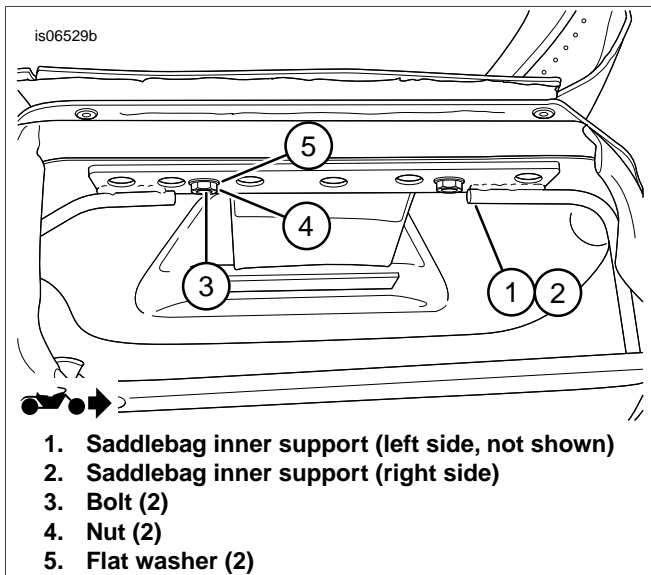
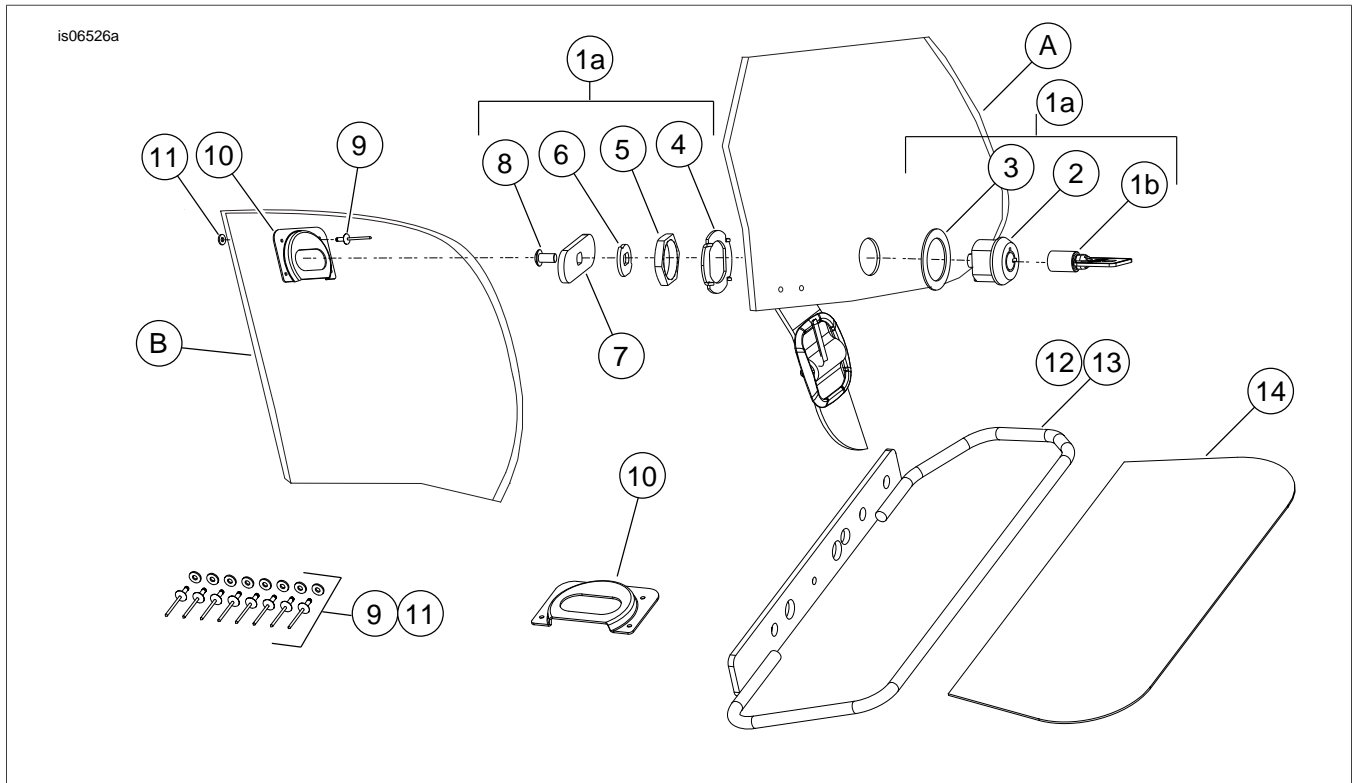

Figure 3. Temporary frame installation without quick detach saddlebag conversion kit (90200641)
Figure 6. Service Parts: Heritage Bags Flat Top and Lock Kit
See Figure 6 and Table 1.
7. See Figure 6 and Table 1. Install flat washer (3) to lock assembly (2).
8. Insert lock assembly through the hole in the lid and install anti-rotation ring (4), with prongs to the leather side, on the inside of the lid.
9. Install nut (5) over anti-rotation ring and tighten with 7/8 inch wrench or socket.
10. Install cam plate (6), T-bar (7) and screw (8). Tighten screw to lock assembly. Use the key to work the lock assembly to see if the cam is installed correctly.
11. See Figure 3. Install saddlebag inner supports, left (1) and right (2). Use 5/16-18 temporary bolts (3), nuts (4) and washers (5) (not provided in kit) to mount the frame which will assist in the installation of the lock plate.
14. See Figure 6 and Table 1. Use a pop rivet gun and blind rivets (9) and washers (11) to fasten lock plate to the saddlebag tub. Washers will be placed on the inside of the saddlebag tub over the head of the pop rivet.